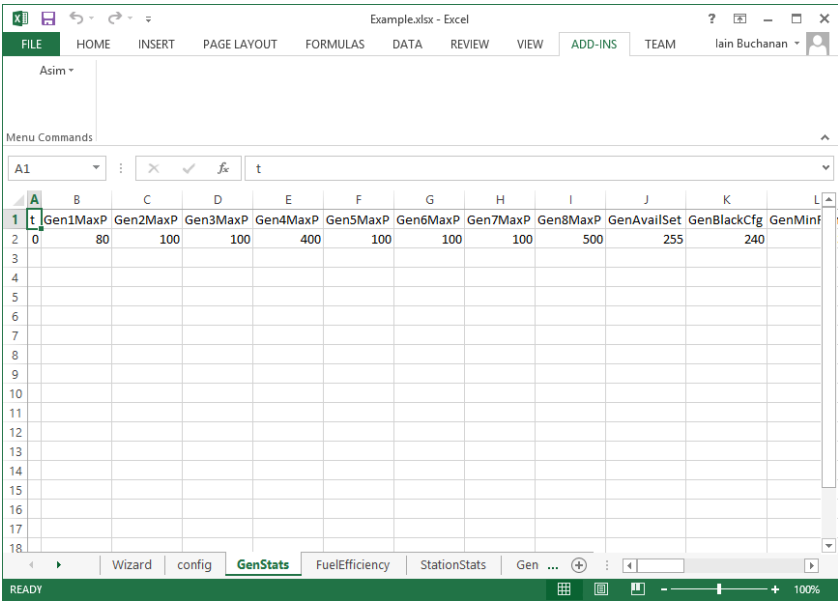

Figure 14: GenStats tab
- 1. Select the tab called *GenStats* (see Figure 14).
The Fuel Efficiency tab is where the user can specify the fuel efficiency curve for each generator (see Figure 14).